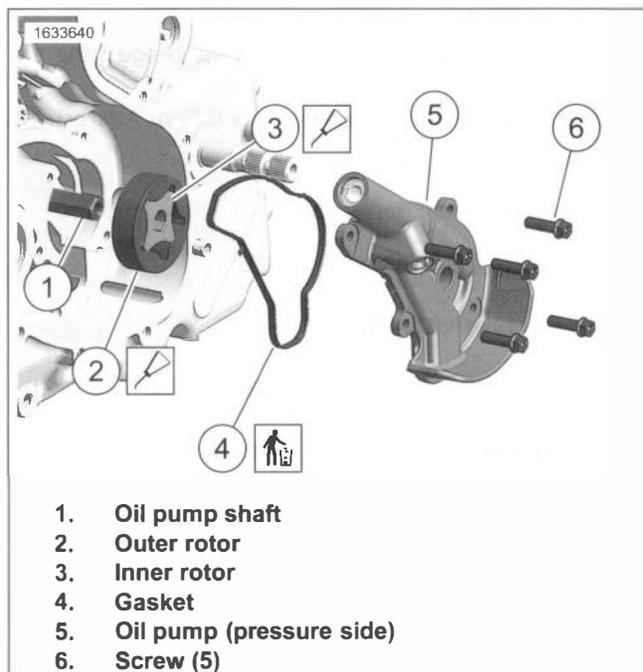

Figure 4-79. Oil Pump
1. See Figure 4-79. Remove screws (6).
2. Remove oil pump (5).
3. Discard gasket (4).
4. Remove inner (3) and outer (2) rotors.
See Figure 4-79. Install gerotor assembly.